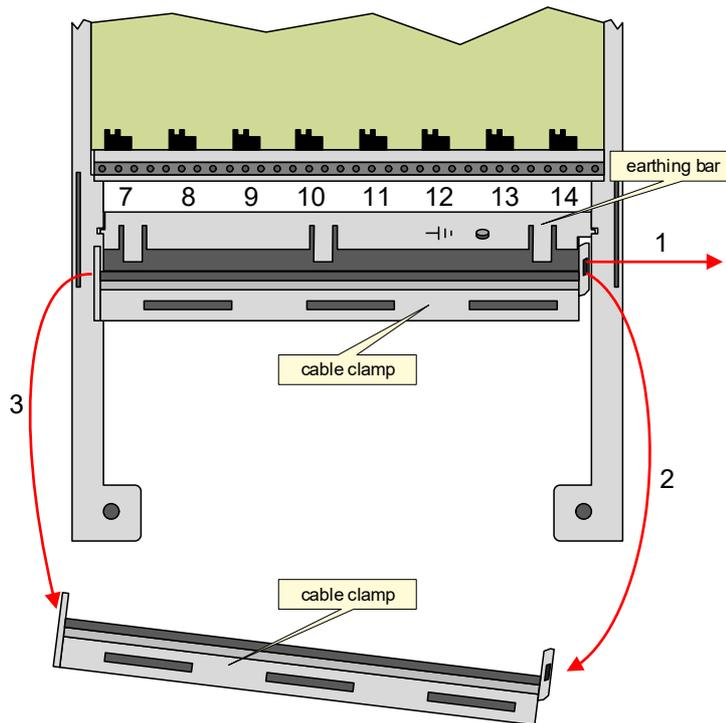

Figure 50: Removal of the cable clamp
1. Remove the cable clamp from the earthing bar of the subrack. Follow steps (1) to (3) in Figure 50.
- Push both levers (11), (12) in outward position (A).
- Slide the unit in until its connectors touch the front of the backplane connectors (13). Do not insert completely!
- To engage the unit with the backplane connectors, press carefully and simultaneously the levers (11) and (12) inwards (B) while at the same time pressing (C) the via the unit front into the subrack.
- Tighten both fixing screws (14) to fix the unit to the subrack (for recommended torques, refer to section 2.4.6 Torques (on page 26)).